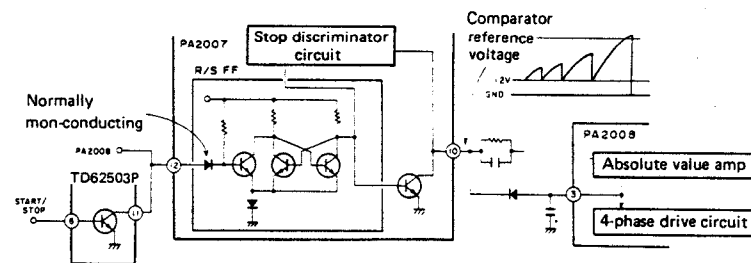

Fig. 5-6 Stop discriminator theoretical circuit
2. The stop discriminator circuit functions to detect low or high rotation speed through the charge/discharge status of capacitors and resistors connected to IC PA2007 pin 10 (To/STOP), and when rotation drops below a certain speed, motor torque is dropped to zero. A theoretical circuit diagram is shown in Fig. 5-6.